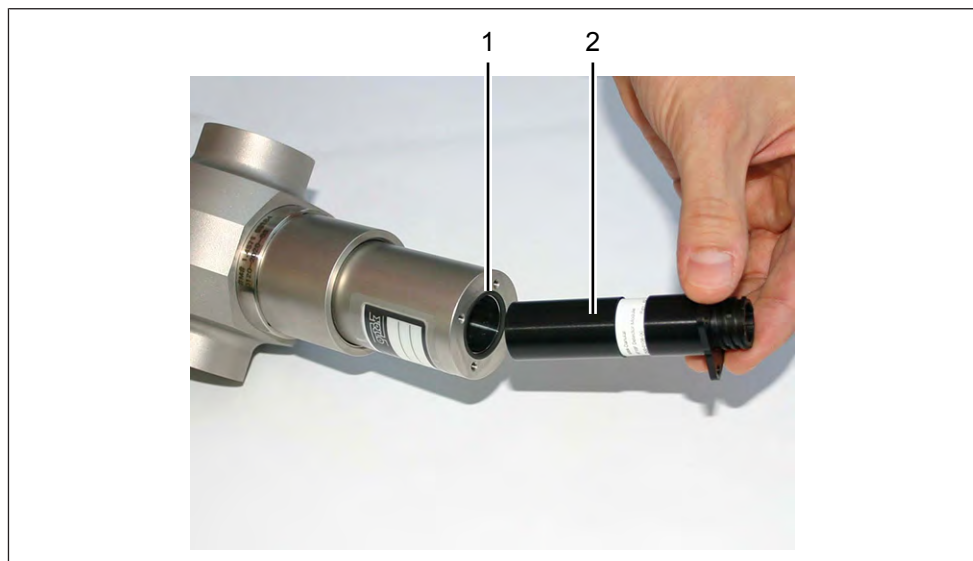

Fig. 16: Exchange of the detector module
4. Pull out the detector module (2 in Fig. 16).
5. Check if there is an O-ring (1) for the detector.